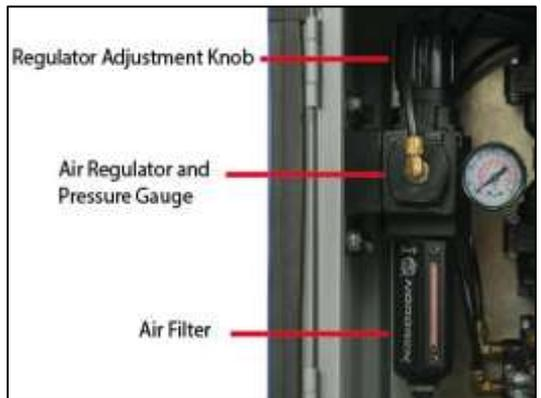

Figure 5-1: Air Regulator Features
3. Locate the Air Regulator and turn the adjustment knob on the Air Regulator fully counter-clockwise. See Figure 5-1.